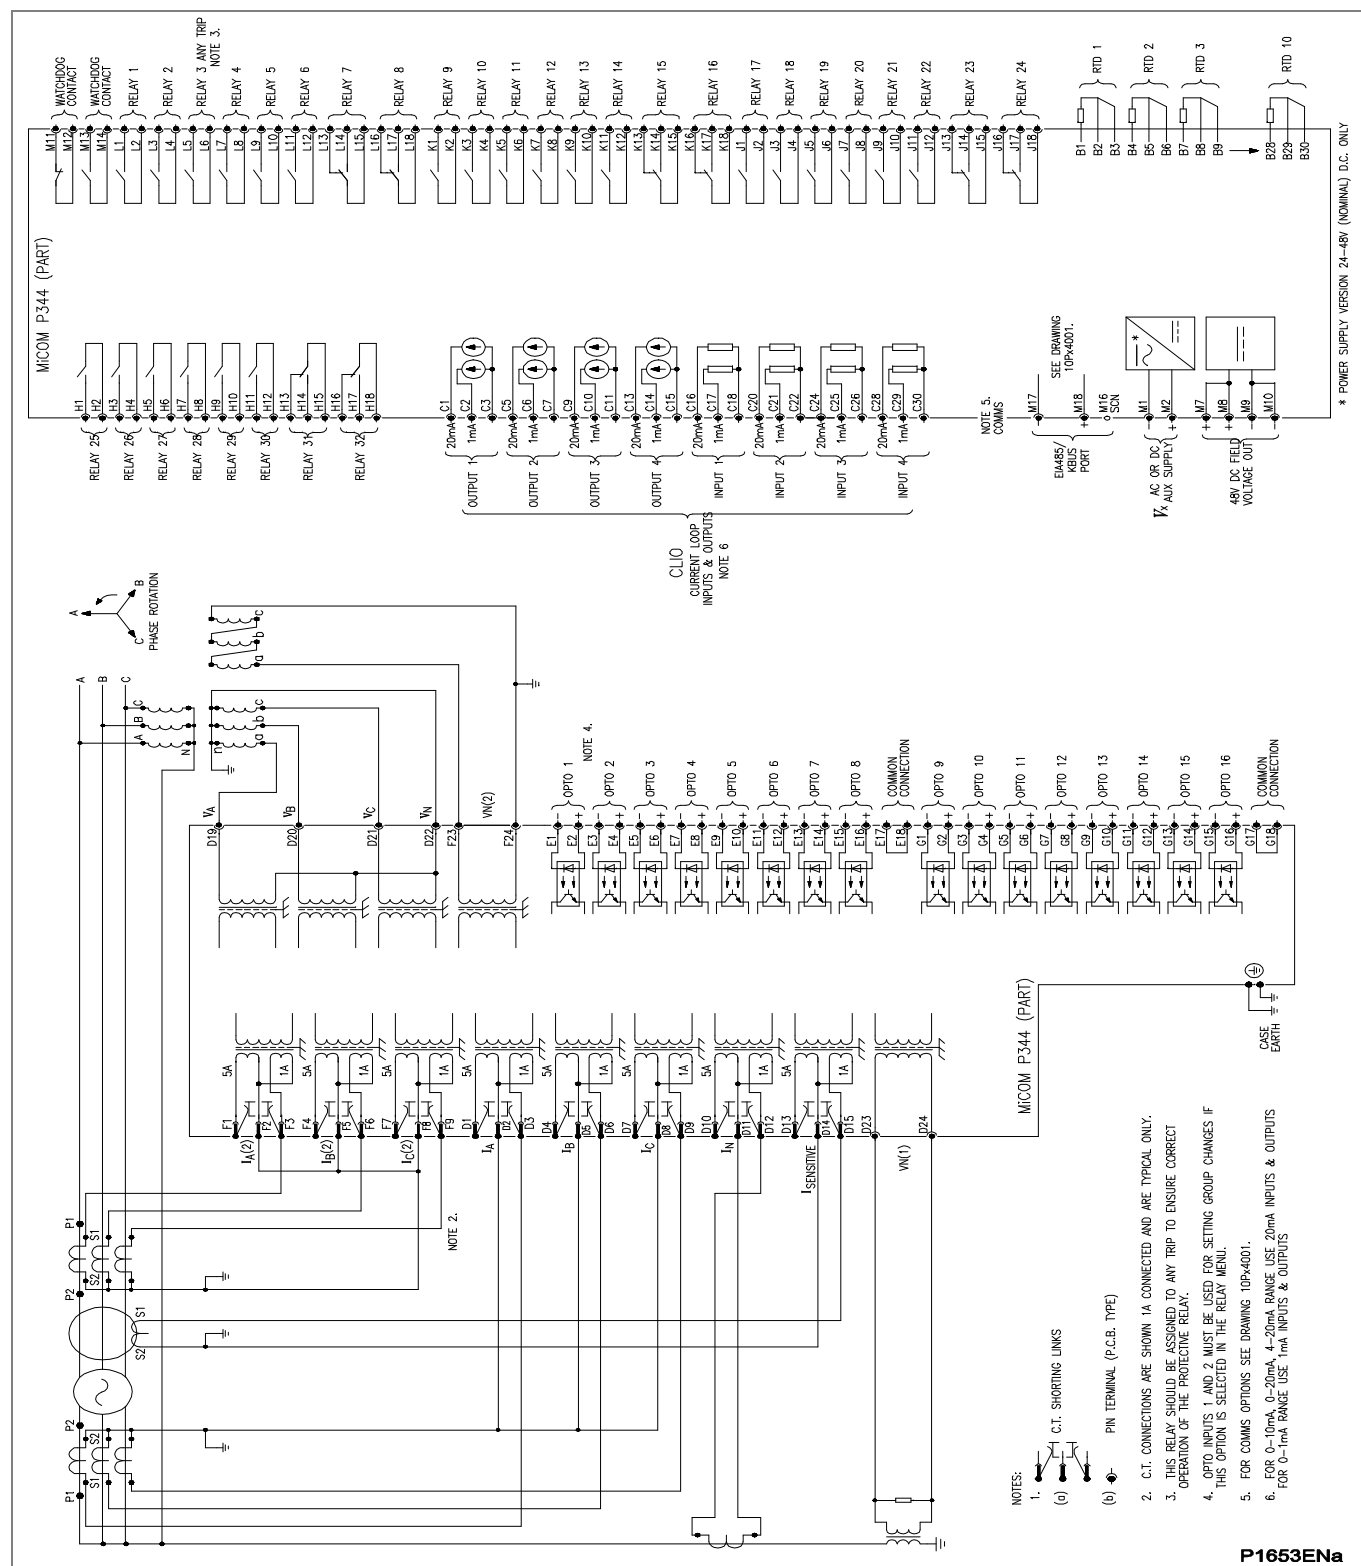

Figure 46 - P344 (80TE) with biased differential and zero sequence voltage interturn (16 I/P & 32 O/P & RTD's & CLIO)
- Figure 46 - P344 (80TE) with biased differential and zero sequence voltage interturn (16 I/P & 32 O/P & RTD's & CLIO)